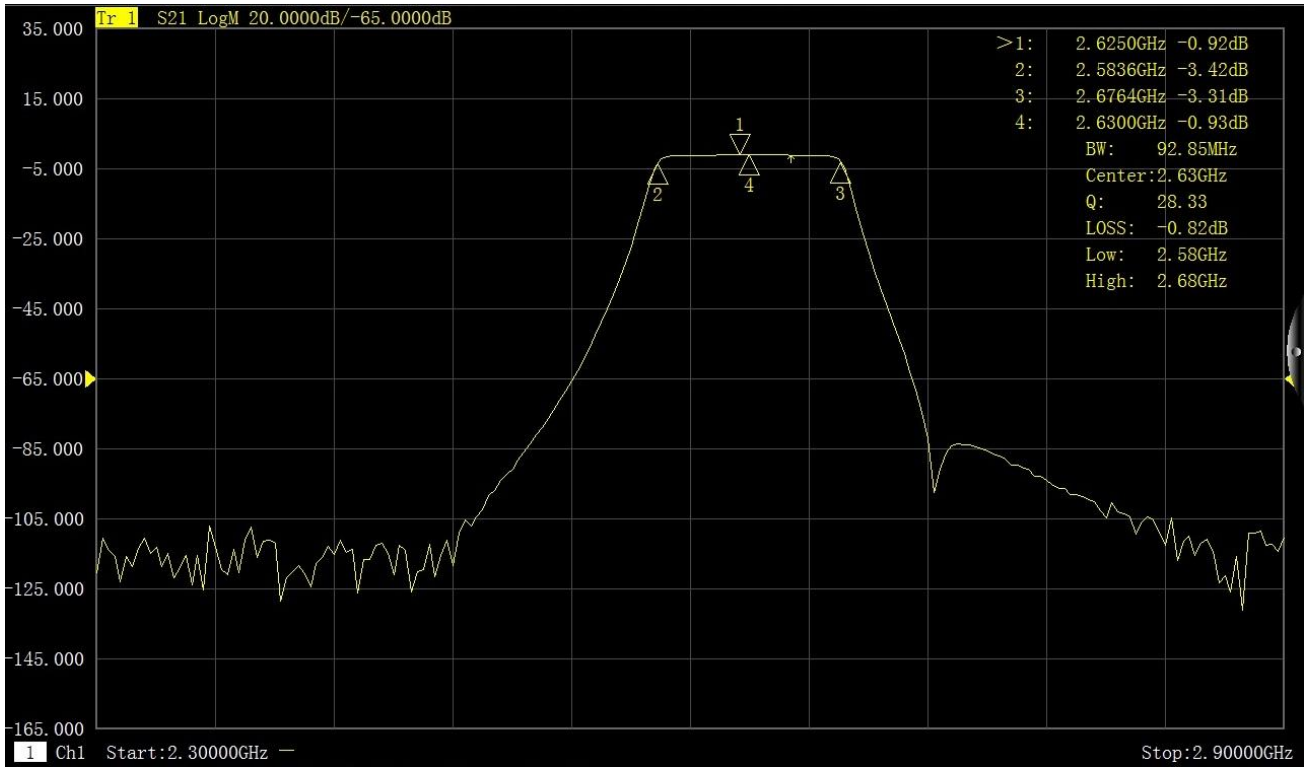

Fig. 3.52 Bandwidth Search
- ① If the **[Discrete]** is selected in the **[Advanced]** dialog box, the marker will move to the discrete data point corresponding to the target value.
- ② If the **[Discrete]** is cleared in the **[Advanced]** dialog box, the marker will move to the interpolation data point corresponding to the target value.
- **Bandwidth:** if the **bandwidth** searching function is selected, set the **level** (default: -3dB) below the peak in the level box and measure the bandwidth at the set level, as shown in Fig. 3.52. Use Marker 1-4 for measurement. Marker 1 is used to search the maximum peak value, Marker 2 to search the point of specified level on the left side of the peak, Marker 3 to search the point of specified level on the right side of the peak, and Marker 4 to search the center of the bandwidth. The following information will be displayed after measurement.